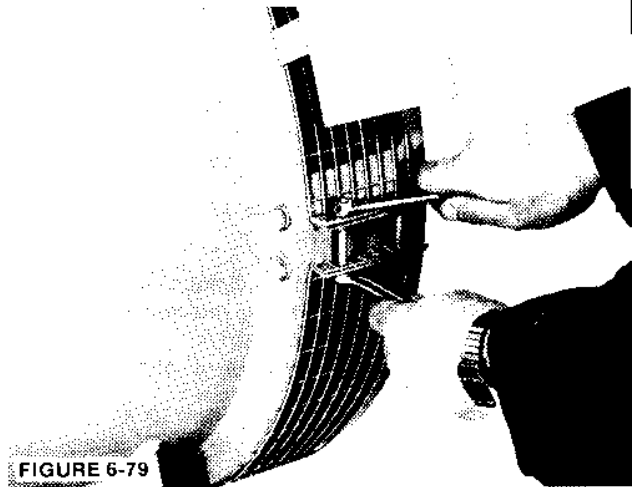

FIGURE 6-79
2. a. For single bearing generators, if the screen assembly is mounted on the adapter, remove the mounting bolts and remove the screen. (Figure 6-79.) (NOTE: Do not remove the drip cover from the screen assembly if so equipped.) Insert two guide pins in the flywheel and two in the flywheel housing. Adjust the generator position until the drive discs are piloted in the flywheel. Remove the guide pins and secure the discs with Grade 8 place bolts and hardened washers or Grade 8 capscrews and heavy series lockwashers. Torque per specifications given in section 12.